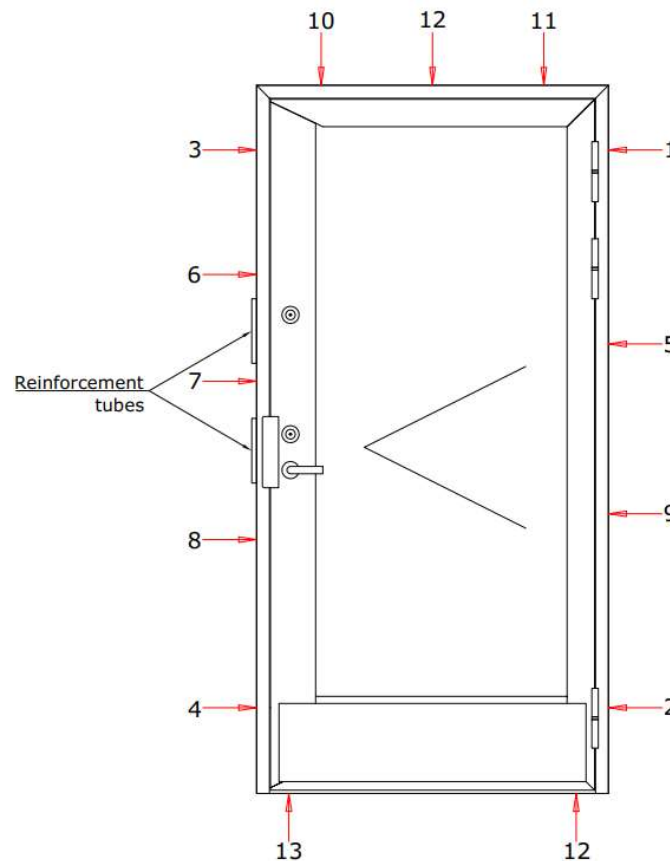

Figure 2 Sequence of the fixing points
4. Level the hinge side of the frame, tighten the first sleeve against wall and drill the hole. Correct sequence of the fixing points is shown in the figure 2.
8. Fix the frame with remaining fixing points (Figure 2). Tighten the screws.